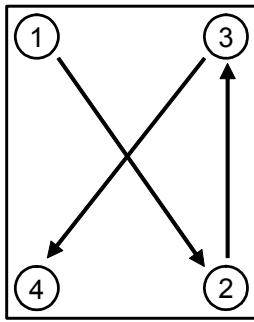

Fig.5-8 : Example of order which tighten bolts
- 4) Confirm that packing is stuck correctly and install the cover. When tightening the bolts fixing the cover, avoid tightening them to a specified torque at a time. Tighten the bolt in the order shown as much as possible in the "Fig. 5-8 Example of order which tighten bolts" The torque which tightens the fixing bolt of each cover is shown in "Table 5-3 : Cover fixing screw list".